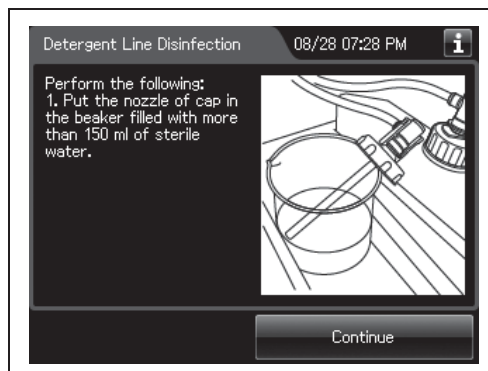

Figure 7.93
- 31** When the touch screen display changes as shown Figure 7.93. Put the nozzle of detergent cap in the beaker filled with more than 150 ml of sterile water.